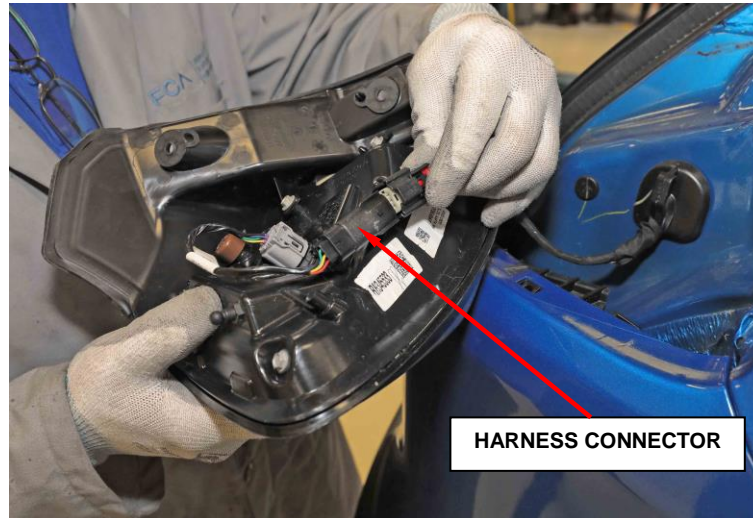

Figure 16 – Harness Connector
11. Pull the lamps away from the vehicle far enough to access and disconnect the body wire harness connectors (Figure 16).
19. Connect the body wire harness connector to the outboard lamps (Figure 16).